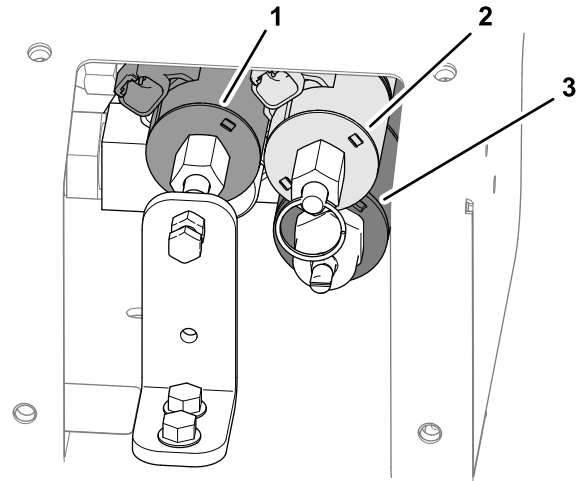

Figure 33
3. Locate the 3 control valves (Figure 33).